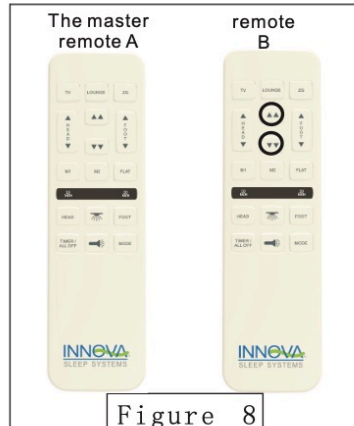

Figure 8
To desynchronize the clone remote (B) from master remote (A), press the **▲▲** and **▼▼** buttons of the clone remote (B), the desynchronizing process is successful when the clone (B) flash light normally on. (See figure 8)